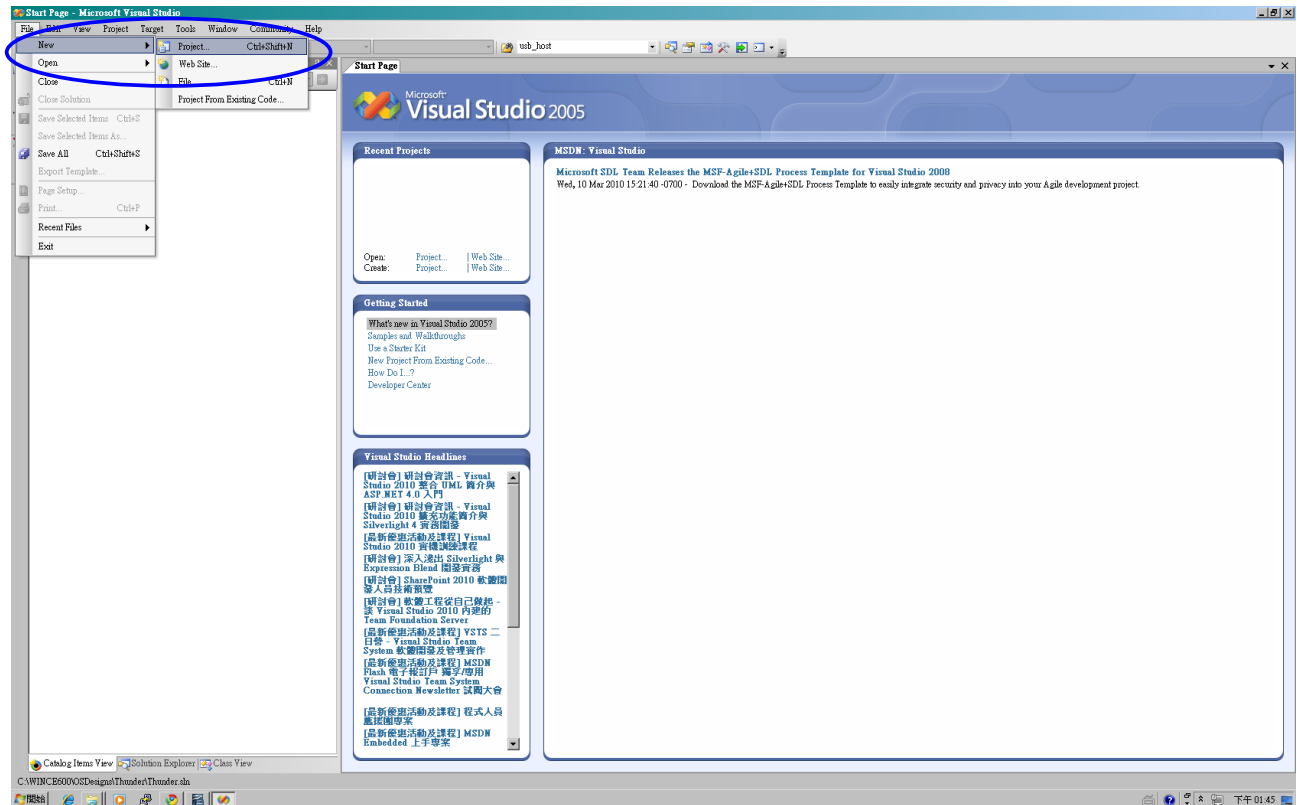

Figure 153
- Click “File → New → Project...” (See Figure 153)